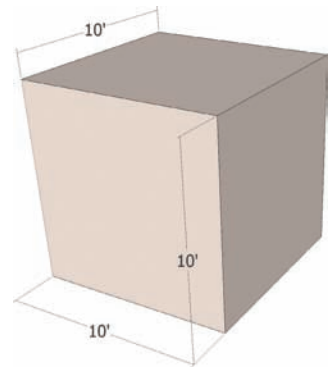
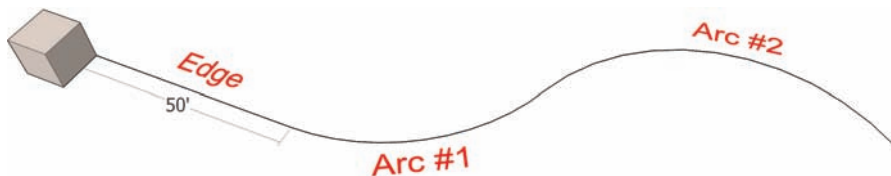

Fig. 8-7: Draft a $10' \times 10' \times 10'$ cube.
Fig. 8-8: Starting at the cube, draft a $50'$ -long edge and two arcs as indicated.
1. Create a cube $10' \times 10' \times 10'$ (Fig. 8-7). At the bottom corner of the cube, draft an edge $50'$ in length with the Line tool. Draw the edge so it aligns with either the green or red inference axis (Fig. 8-8).
2. At the end of the edge, draft two arcs. Try to make the arcs tangent to the edge and to each other. Place the arcs so that they form a smoother, continuous path (Fig. 8-8).